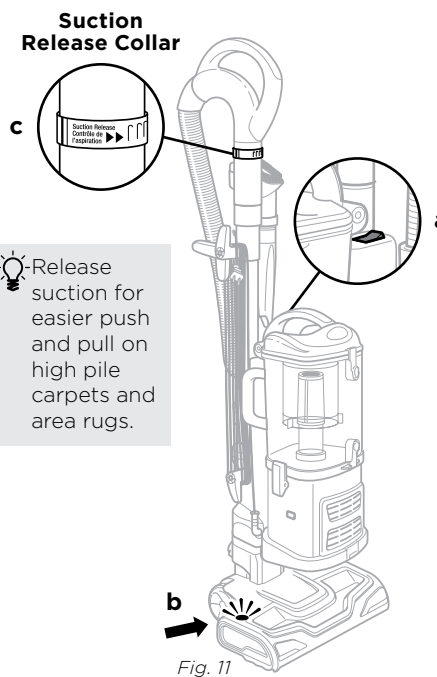

Fig. 11
- 3 Press the On/Off switch **(a)** to the "I" position to vacuum bare floors (straight suction only) or to the "II" position to engage the motorized floor brush (for vacuuming carpets and rugs). **(Fig. 11)**
▲ IMPORTANT: The motorized brush indicator light **(b)** will illuminate green when motorized floor brush is on, or red if there is a blockage or jam. **(Fig. 11)** This feature is designed to protect your Lifetime Belt that powers your motorized floor brush. See Checking for Blockages on page 15.
- 5 **It may become necessary at times to adjust the suction release (c) on the handle. (Fig. 11) If the vacuum seems difficult to push or pull or if it is lifting up area rugs, adjust the suction release by rotating the collar 90° counterclockwise to open the valve. Rotate the collar clockwise to close the valve when you need high suction and for vacuuming floors.**